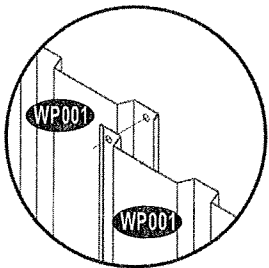

Fig. 1
9. Place wall panels on left side of the garage as **Numbered**. Following the same steps, always observe panel overlapping. See fig. 1 & 2